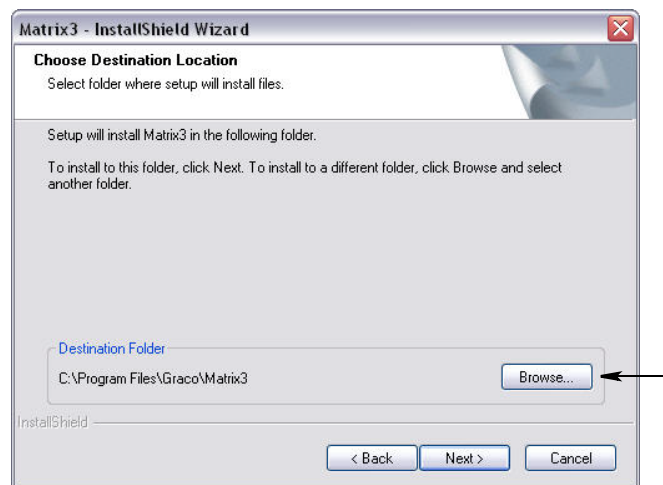

FIG. 16
8. Chose the Destination Location. The default is C:\Program Files\Graco\Matrix3. Click the Browse button, shown in FIG. 16 to select a different location.
9. Click NEXT to continue software installation and advance to the InstallShield Wizard for Matrix3, FIG. 16. Click The BACK button to return to a previous installation screen or CANCEL to end the software installation.